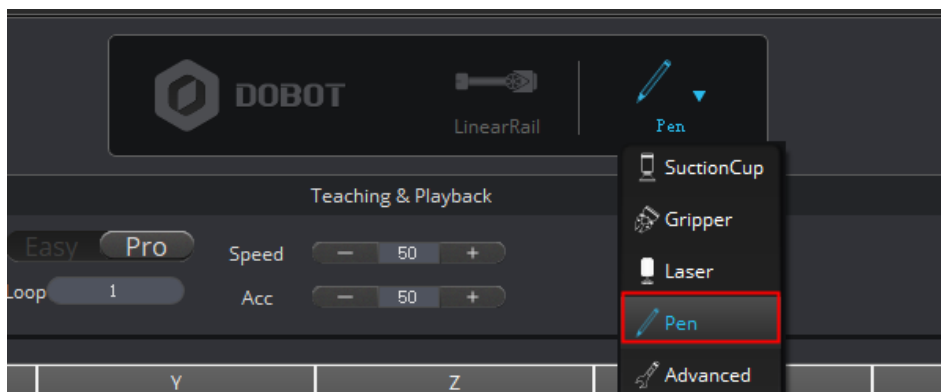

Figure 5.202 Select end-effector
Step 1 Select **Pen** from the end-effector drop-down list on the DobotStudio page, as shown in Figure 5.202.